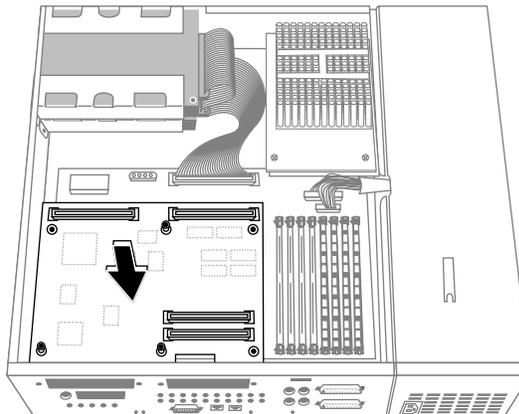

Figure 1-22 Positioning the Graphics Board Over the System Board
3. Connect the graphics board to the system board as follows. See Figure 1-22.